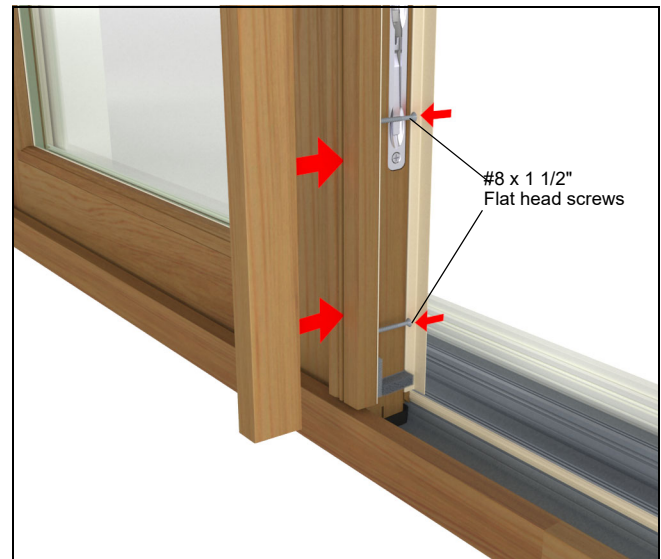

Figure 153
6. Fasten mull casing cover to the mull base using #8 x 1 1/2" flat head with screws. See figure 153.